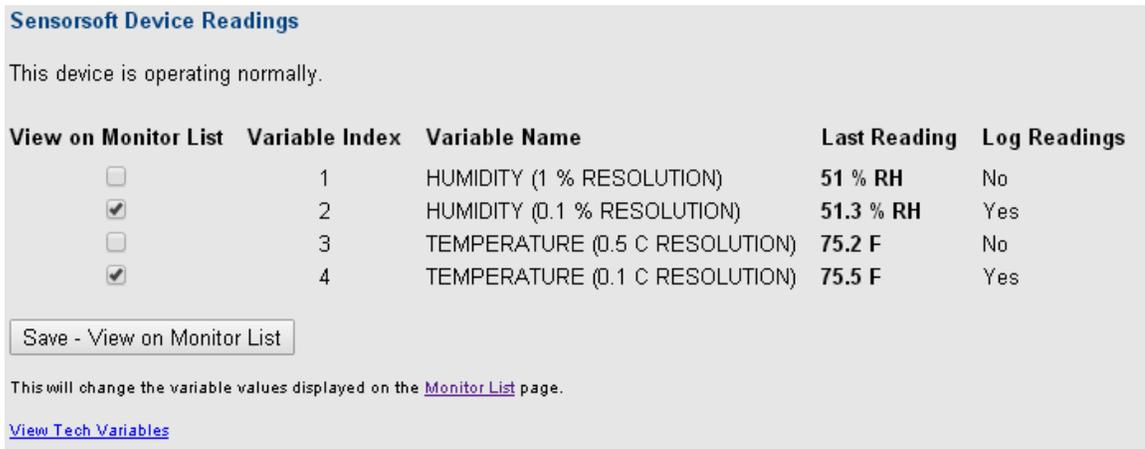

Figure 7: Selecting Variables to display on the Monitor List
You can select which variables you want to have displayed on the Monitor List page. When you add a new item/node to be monitored, by default, all of its variables are displayed on the Monitor List (excluding tech variables). However, instead of seeing all of the variables on the Monitor List, you may only want to see the variables that you care about. For example in Figure 7, if you are monitoring a Sensorsoft SS6610J or SS6610C, you may want the Monitor List page to display just the high resolution and not the low resolution variables. To select the variable(s) to be displayed, do the following:
2. On the Details page you will see a list of variables, as shown in Figure 7.